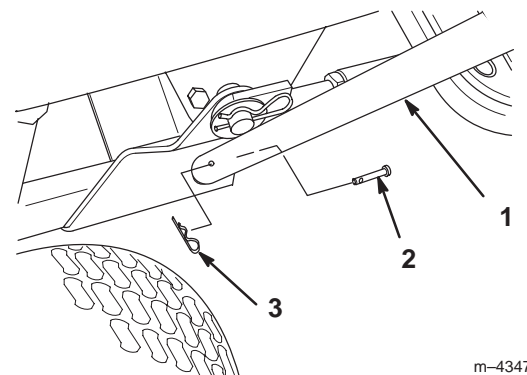

Figure 23
- Secure the crank support in position with a locking pin and small hairpin cotter (Fig. 23).